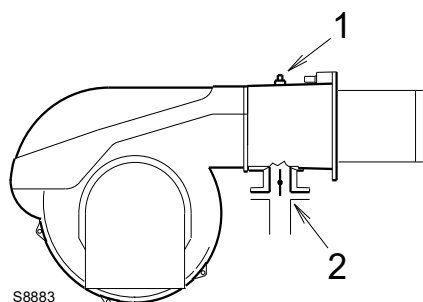

Fig. 18
Gas pressure measured at the test point 1)(Fig. 18), with:
To calculate the required gas pressure at test point 1)(Fig. 18), with the output fixed at that required for the burner in the 2nd stage:
- Read the pressure at the test point 1)(Fig. 18).
pressure required at test point 1)(Fig. 18).